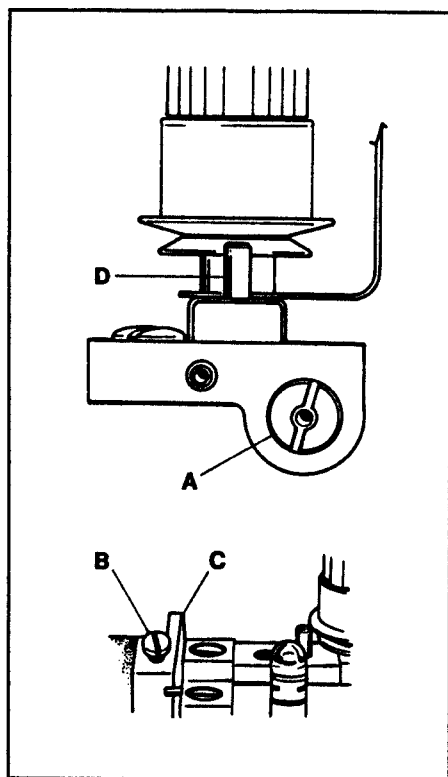

FIG. 36
The tension releaseshould start to function when the presser foot has raised approximately  $1/32$ " (0.8mm) above the surface of the throat plate and be entirely released when the presser foot has reached its highest position. Insert a large screwdriver into slot on the right end of shaft (A, Fig. 36), loosen screw (B) in lifter lever (C) and turn the screwdriver to raise or lower pins (D). Tighten screw (B).